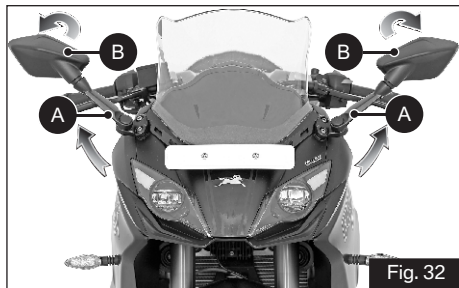

Fig. 32
**Rear View Mirrors LH & RH (ref. Fig. 32)**